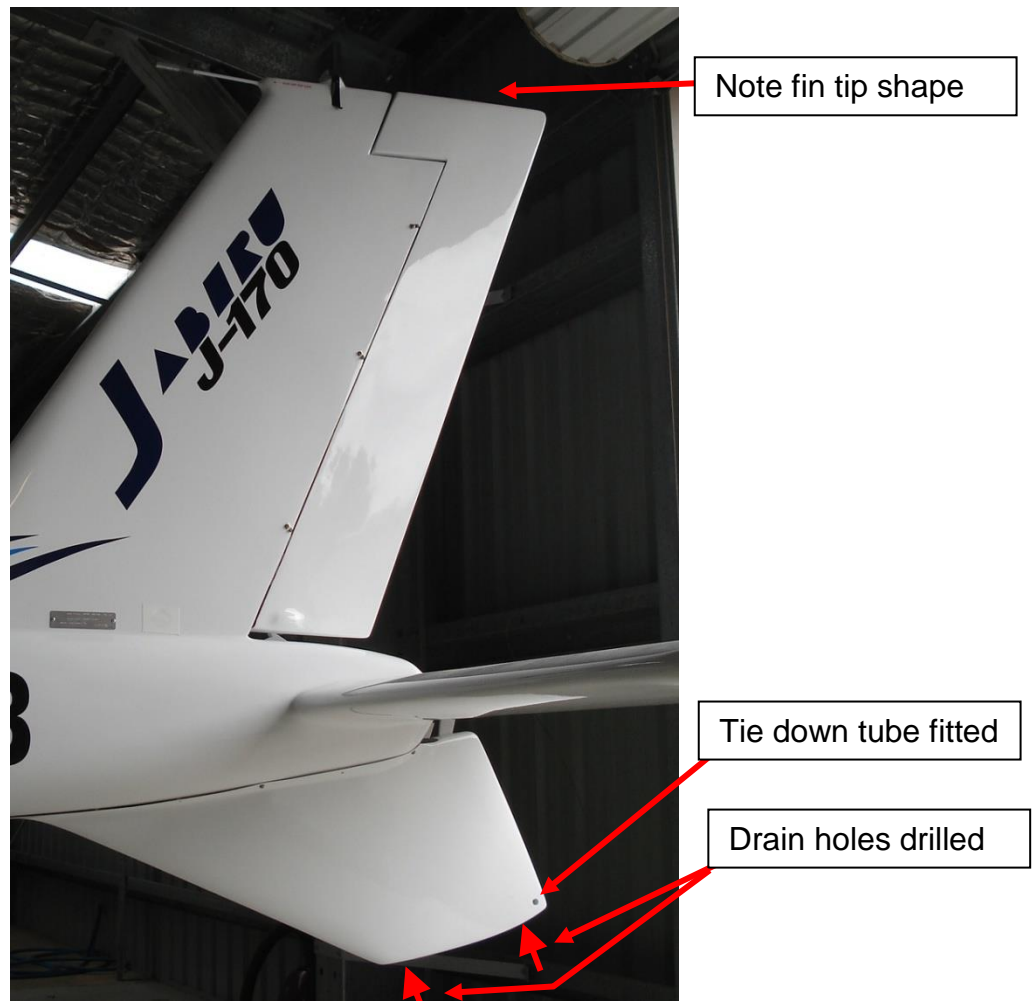

Figure 8 – New Ventral Fin Fitted
- Cut the inspection hole and fit the tie-down tube to the new ventral fin. Drill two ¼” drain holes in the bottom of the fin at the positions indicated in Figure 8. Paint to match the aircraft.